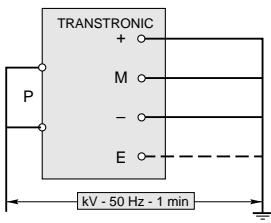

fig. 6
- P/S + screen to earth (kV r.m.s. - 50 Hz - 1 min) - fig. 6